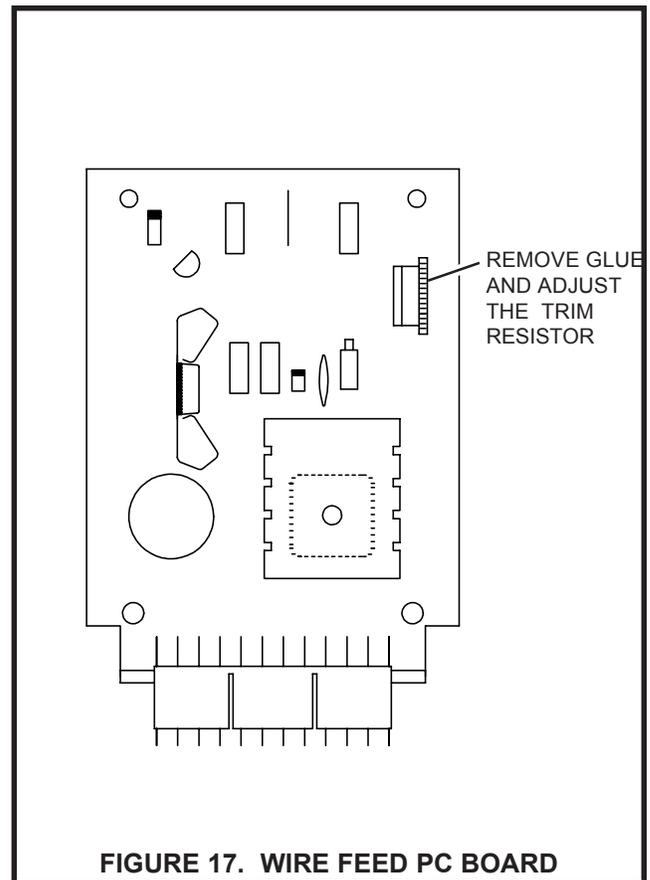

FIGURE 17. WIRE FEED PC BOARD
3. Referring to Figure 17, locate the trim resistor, this is located in the upper right hand corner of the wire feed PC board.